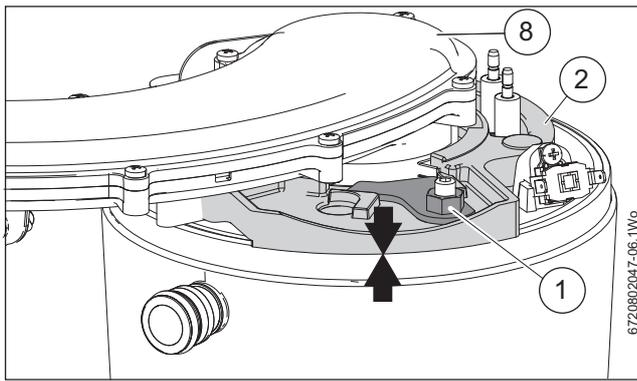

Fig. 107 Clamping plate secured
- ▶ Tighten the nut on the retaining plate assembly [1] until the underside face of the clamping plate mates with the top of the heat exchanger as indicated by the two arrows in figure 107